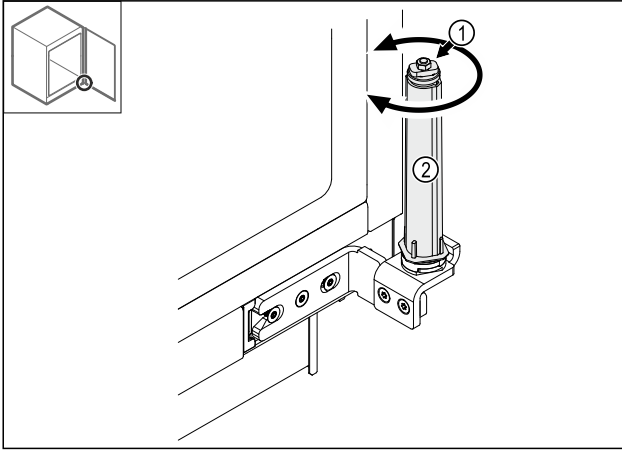

Fig. 38
- ▶ Do not dismantle the screw connection Fig. 38 (1) on the locking system.
- ▶ Turn the locking system Fig. 38 (2) until it clicks.